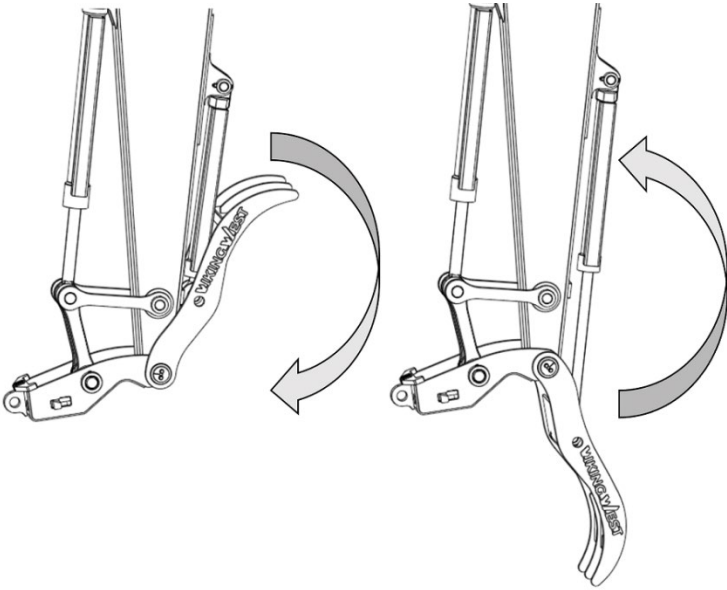

Figure 16: Articulating the Direct Link Thumb.
1. Use the cylinder to articulate the thumb through the full range of its motion, as shown in Figure 16 below. It should